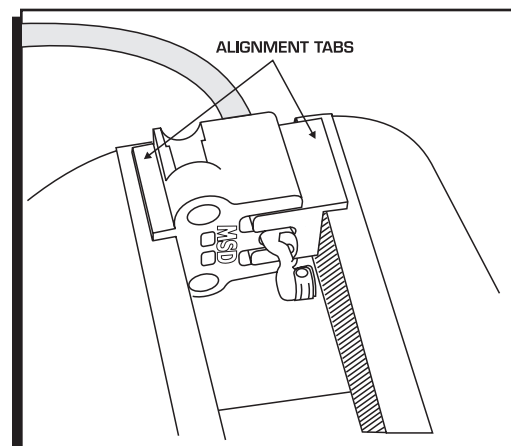

Figure 6 Aligning the Terminal in the Tool.
8. Put the assembly into a vise making sure the alignment tabs are on the outside edge of the vise jaws (Figure 6).
9. Slowly close the vise making sure the tool and terminal stay properly positioned and aligned (Figure 6). Stop applying pressure when the terminal ends have wrapped securely around the sleeve and grip the wire.